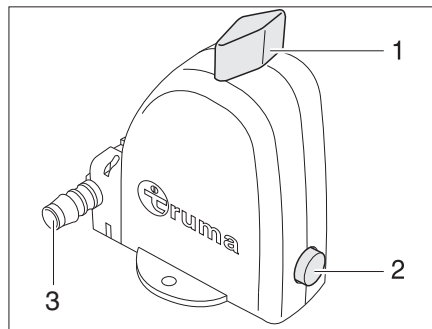

Fig. 311 Safety/drainage valve of the boiler - Operation position
The boiler is equipped with a safety/drainage valve (Fig. 311). The safety/drainage valve prevents water in the boiler from freezing, when there is frost and the heater is not switched on.
- ▷ The drainage neck (Fig. 311,3) of the safety/drainage valve has to be free of dirt (e.g. leaves, ice) at all times.
- Turn the knob (Fig. 311,1) 90° lengthwise to the safety/drainage valve. The pushbutton (Fig. 311,2) jumps out. The boiler is drained to the outside by the drainage neck (Fig. 311,3) of the safety/drainage valve.
- Turn the knob (Fig. 311,1) 90° crosswise to the safety/drainage valve.
- Push in the pushbutton (Fig. 311,2).